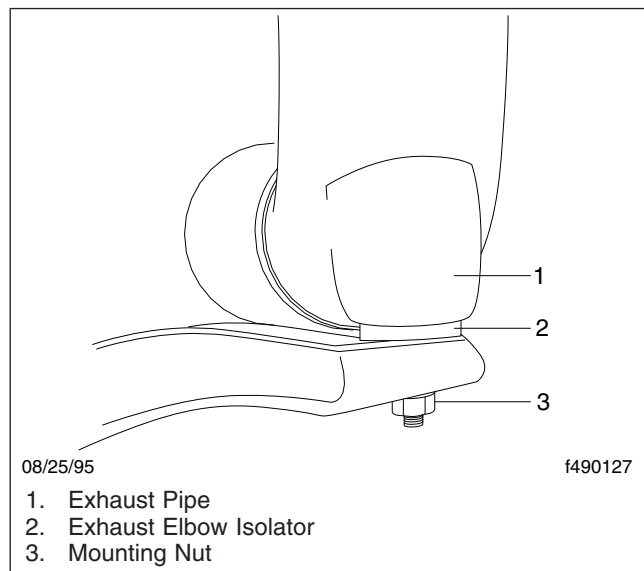

Fig. 2, Exhaust Elbow Isolator
3. Check for leakage at the V-band coupling, which attaches the exhaust pipe to the turbocharger exhaust outlet. See **Fig. 2**.
7. Check the isolator at the base of the exhaust stack elbow(s) (see **Fig. 2**), for cracking, damage, and dry rot. Replace as needed.